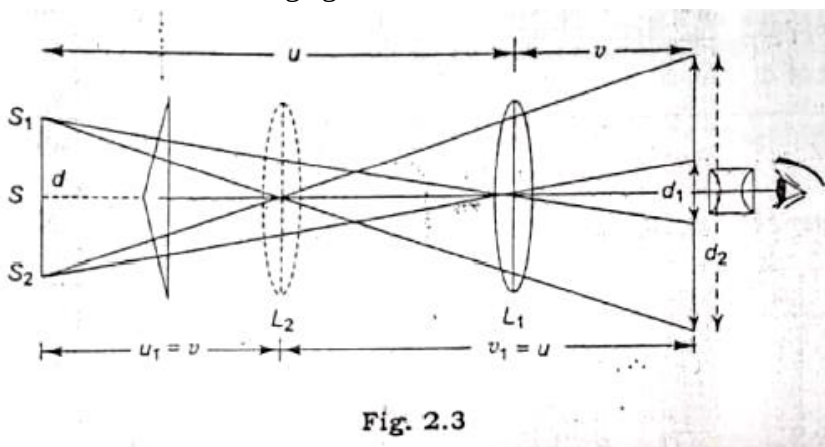

Fig. 2.3
If d is the distance between the sources S_1 and S_2 (Fig. 2.3), D is the distance between the slit S and the cross-wires of the eye-piece; and β is the fringe width then
Thus the wavelength λ of the monochromatic source can be determined by measuring D , d and β . To determine d , a convex lens is chosen such that its focal length is less than one-fourth of the distance between the slit and the focal plane of the eye piece. The lens is mounted on a stand which is kept between the stands holding the Fresnel's biprism and the eye-piece (Fig.2.3). The lens is so adjusted that for two of its positions the real images of the two virtual sources S_1 and S_2 are focused on the focal plane of the eye-piece. If d_1 and d_2 are the separation between the real images of S_1 and S_2 for two positions of the lens, the magnifications for the positions of the lens are
where u and v are the distances of the object and the image respectively from the lens in the first position L_1 (Fig. 2.3).
2. Repeat step(1) for the horizontal movement of the eye-piece from right to left and find the mean fringe-width β .
4. To measure $S_1S_2=d$, place a convex lens of focal length $f < D/4$ in the position L_1 such that clear images of S_1 and S_2 are formed in the focal plane of the eye-piece (Fig. 2.3). Set the vertical cross-wire on images and note the micrometer reading. Move the micrometer screw till the vertical cross-wire is on the second image. Again note the micrometer reading. The difference between the two readings gives the distance d between the two images.